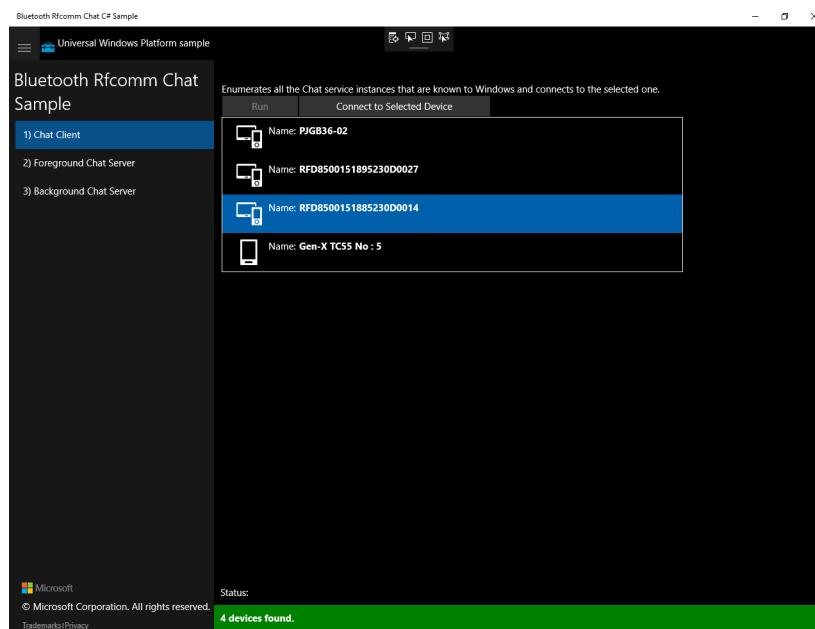

Figure 6-5 Run the Application
7. Send the ZETI command in a Chat window (Figure 6-5) and receive a response from the RFD8500 reader.